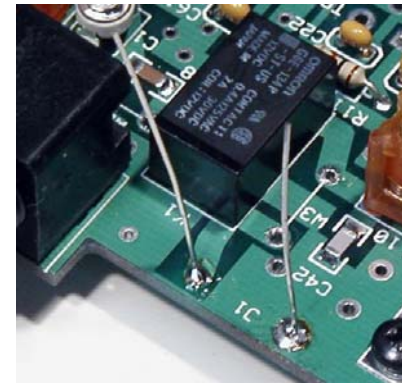

Figure 40. J1 Solder Pads on RF PCB.
- Solder the two clipped leads you saved when you installed D5 (Page 28) to the J1 solder pads on the RF PCB. The J1 pads are near K1 (see Figure 40).